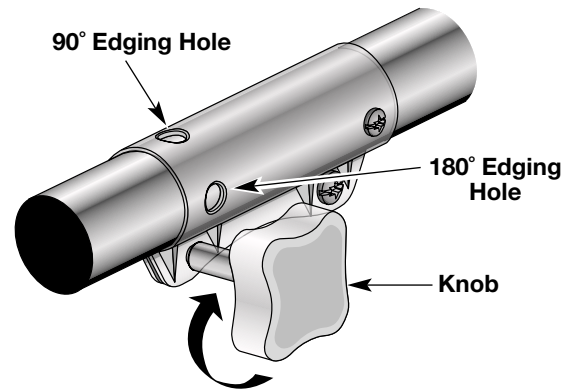

Fig. 12
3. Turn the knob clockwise to tighten (Fig. 12).
For edging when using the line head cutting attachment with Click-Link® models, lock the release button of the cutting attachment into the **90° edging hole** or the **180° edging hole**(Fig. 12). The edger add-on should be installed with the release button in the **primary hole**.